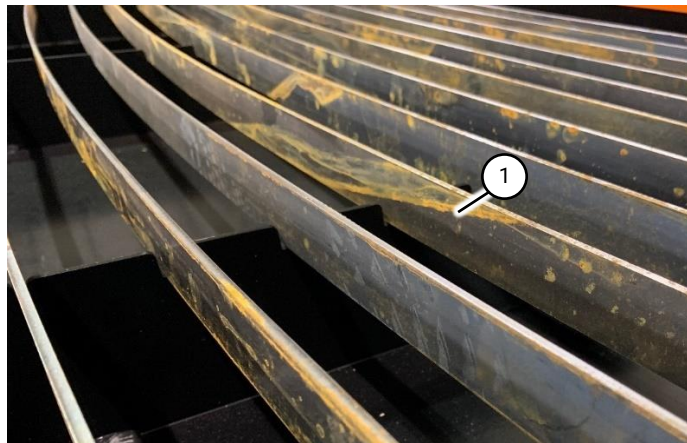

Fig 23 Water tray fill level
2. Fill the water tray to 10mm (3/8 in) below the top of the support slats (Fig 23 (1)).